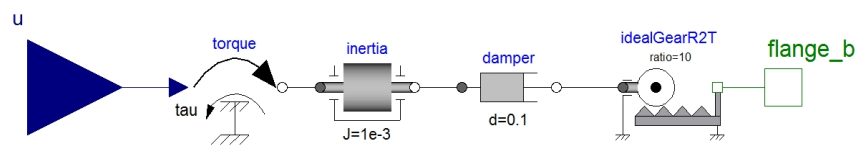
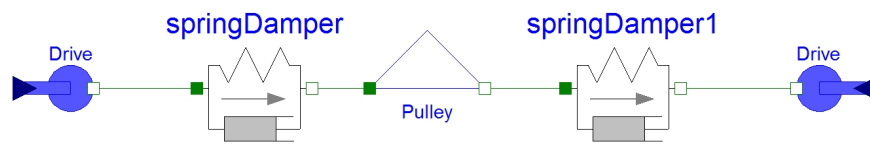

Figure 3: Dymola model of a drive/spool.
Figure 4: Dymola model of coupled drives
We will use this model as a sub-model, so we need inputs and outputs: Use `Modelica.Blocks.Interfaces.RealInput` as input, and connect to the Torque-block. Use `Modelica.Mechanics.Translational.Interfaces.Flange.b` as output, and connect to the IdealGearR2T. If you like, open the Icon-view of the model and draw for example a circle and rectangle to represent the drive. The drive model is illustrated in Figure 3. (A possible icon for the model can be seen in Figure 4.)
Solution: See Figure 3.
- (f) Put together the entire model to get something like Figure 4. Note how the force on Spool 2 now has the right “sign” due to Modelica sign conventions.